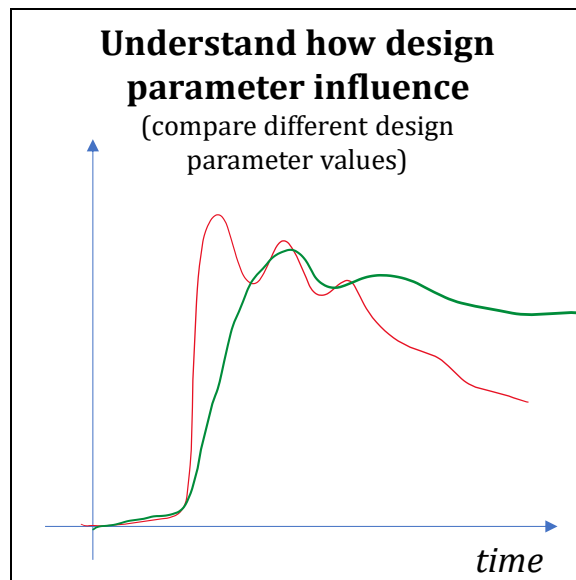

Figure 1-6: A typical diagram to understand the influence of a design parameter.
If we need to re-design, we will also need to understand how the design parameters influence the physics. For this purpose, it is typically good to plot some **time trajectories** for different values of the design parameters, such as Figure 1-6.
- A **plot** with 2 curves of a variable as function of time: for your 2 tested value on $c_{DriveShafts}$. Something like Figure 1-6.